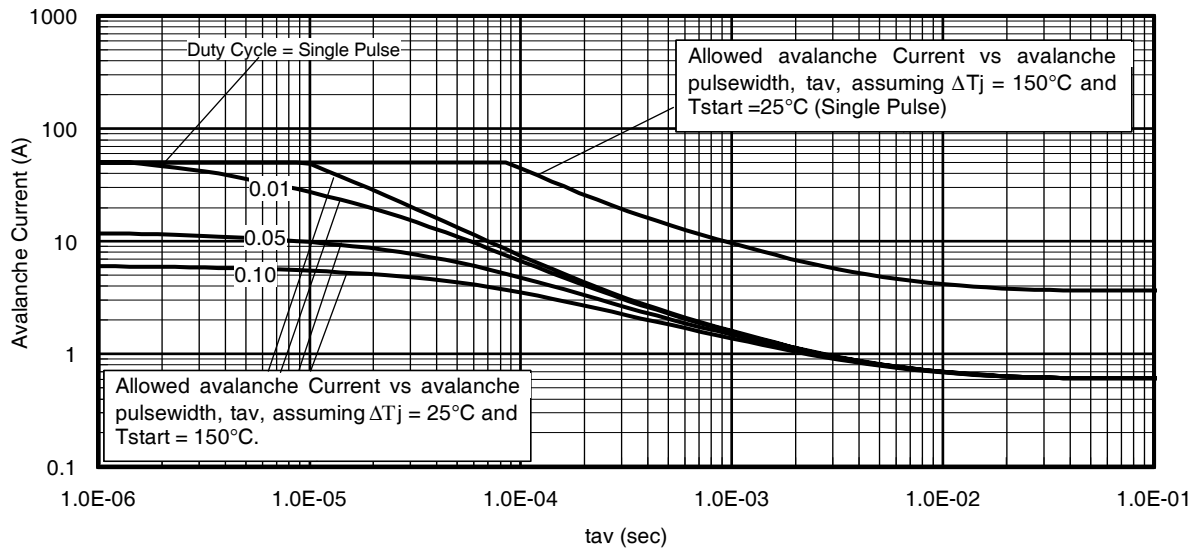

Fig 14. Typical Avalanche Current vs. Pulsewidth
| I_{AR} | Avalanche Current ② | See Fig.14, 15, 22a, 22b | A |
Notes on Repetitive Avalanche Curves , Figures 14, 15:
7. ΔT = Allowable rise in junction temperature, not to exceed T_{jmax} (assumed as 25°C in Figure 14, 15).